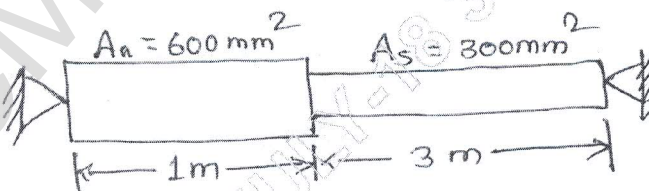

Fig. Q2 (c)
- c. A composite bar is rigidly fitted at the supports A and B as shown in Fig. Q2 (c). Determine the reactions at supports when temperature rises by 20°C . Take $E_a = 70 \text{ GN/m}^2$, $E_s = 200 \text{ GN/m}^2$, $\alpha_a = 11 \times 10^{-6} / ^\circ\text{C}$, $\alpha_s = 12 \times 10^{-6} / ^\circ\text{C}$. (10 Marks)